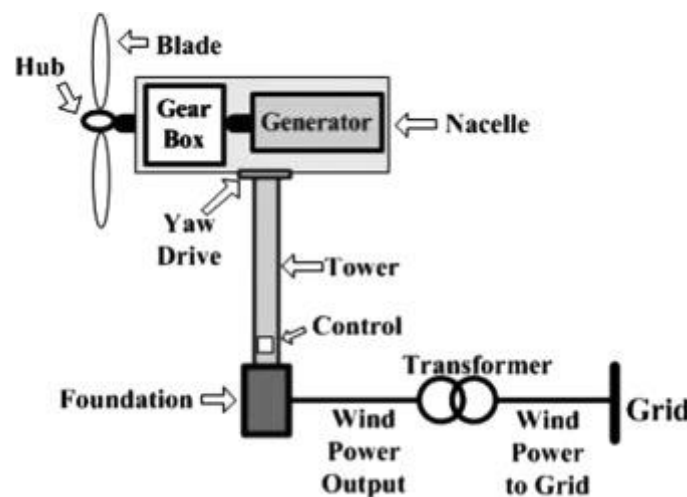

Fig 4. Typical wind energy conversion system (image courtesy: Science Direct)
**Wind energy:** Wind results from temperature gradients between the equator and the poles and between land and sea. Wind energy system converts the kinetic energy of wind into electricity by using wind turbines combined with a generator. The wind velocity of a particular location depends of the height and nature of the terrain. Nearly 4% of the generation in our country is from wind energy. Fig 4 shows a typical wind energy conversion system.